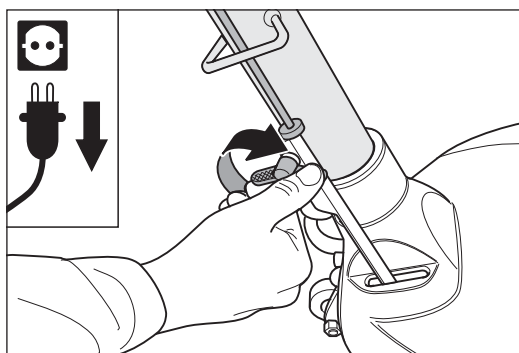
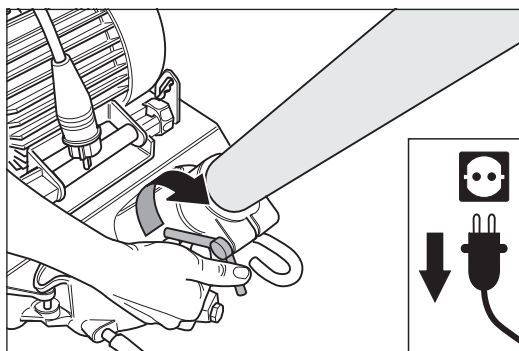

Fig. 57 After inserting the guide tube, carefully tighten the wing screw at the lower rod.
Fig. 58 After inserting the guide tube, carefully tighten the wing nut at the machine housing.
- 3 Carefully tighten the wing screw at the lower rod (Fig. 57) and the wing nut at the machine housing (Fig. 58).